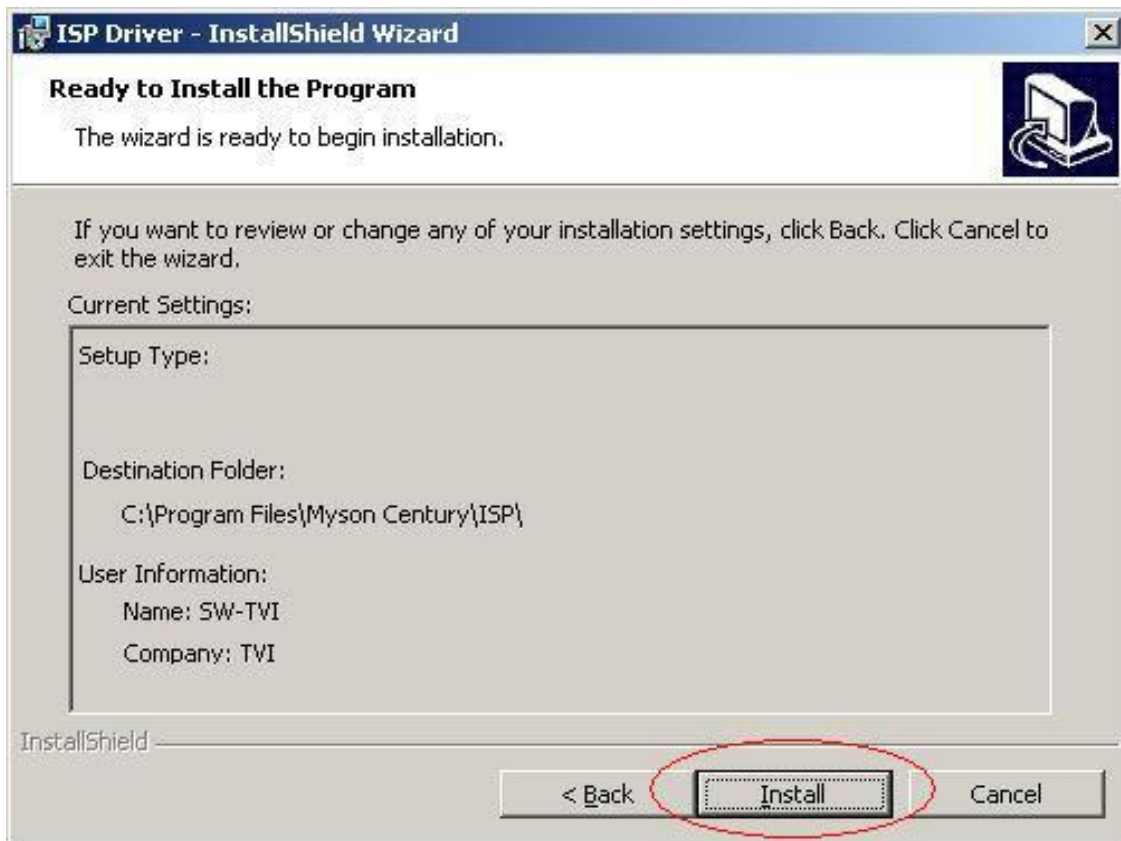

Fig. 1.3
5. Press “ Install “ button to continue , see Fig 1.3